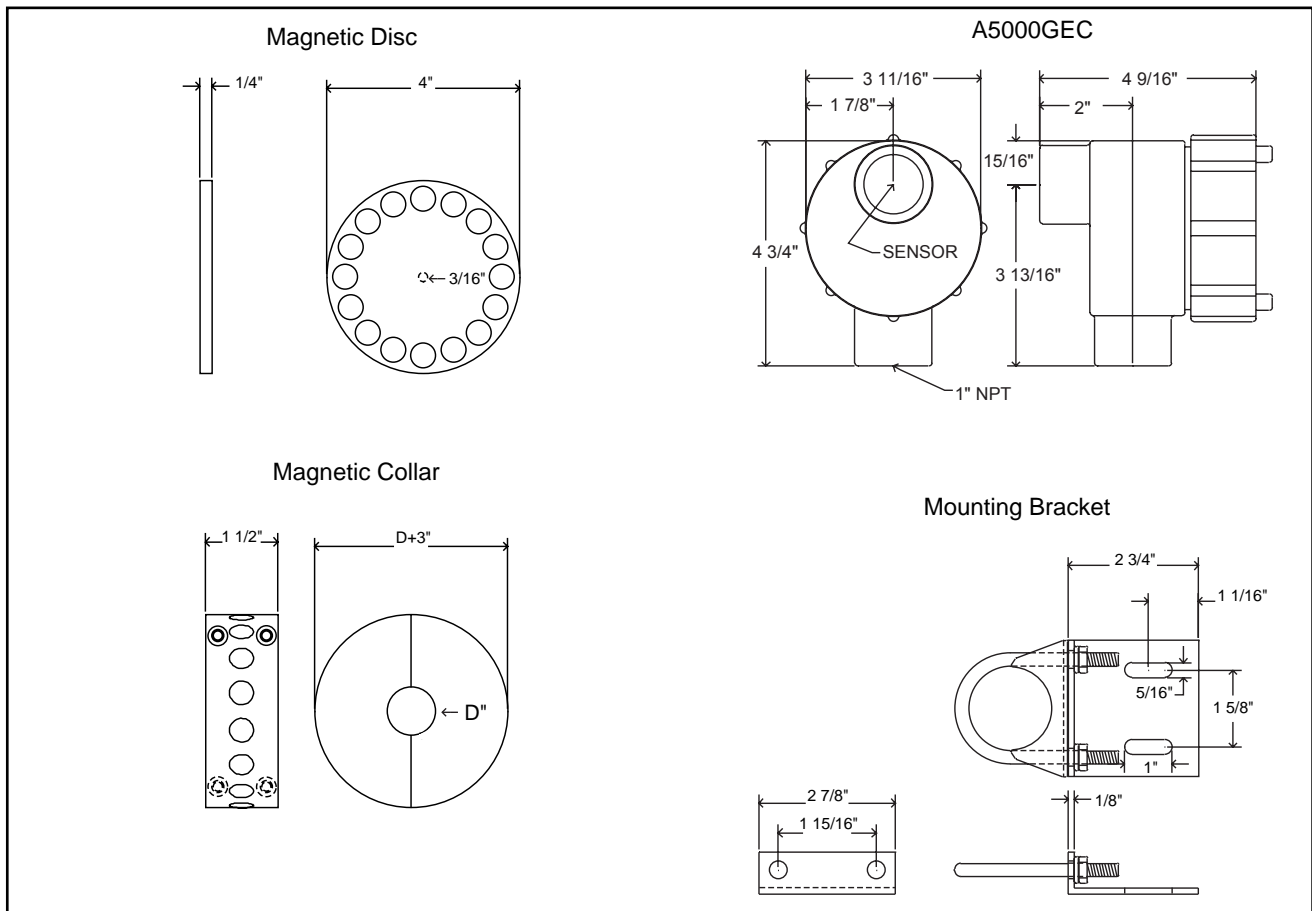

Figure 2
4.1 The A5000GEC zero speed switch housing is certified for Class I, Div. 1 & 2, Group D. Class II, Div. 1 & 2, Group E, F, & G. Class III. (see figure 2, page 3)